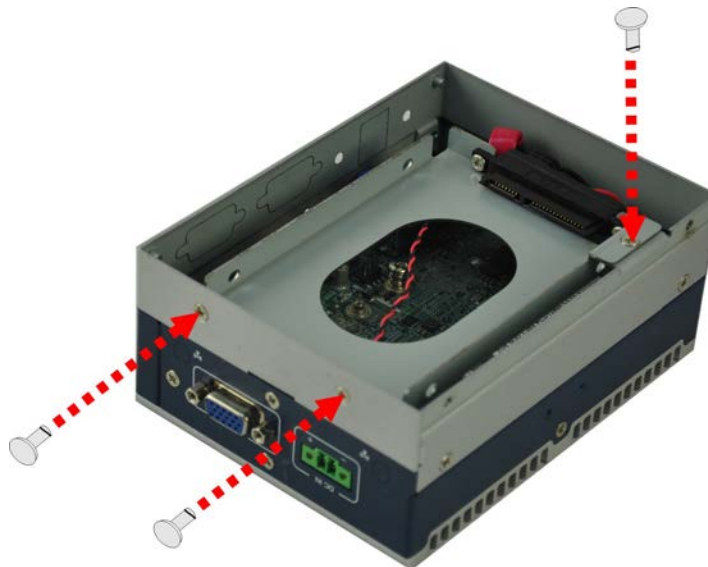

Figure 3-13: HDD Bracket Installation
Step 3: Install the HDD bracket by securing the three retention screws (Figure 3-13).